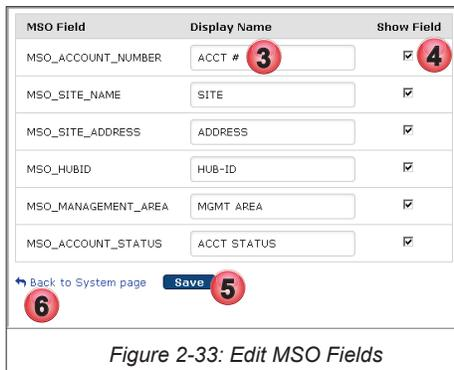

Figure 2-33: Edit MSO Fields
3. Modify any of the six **Display Name** fields to reflect your desired content by directly editing the fields, Figure 2-33.